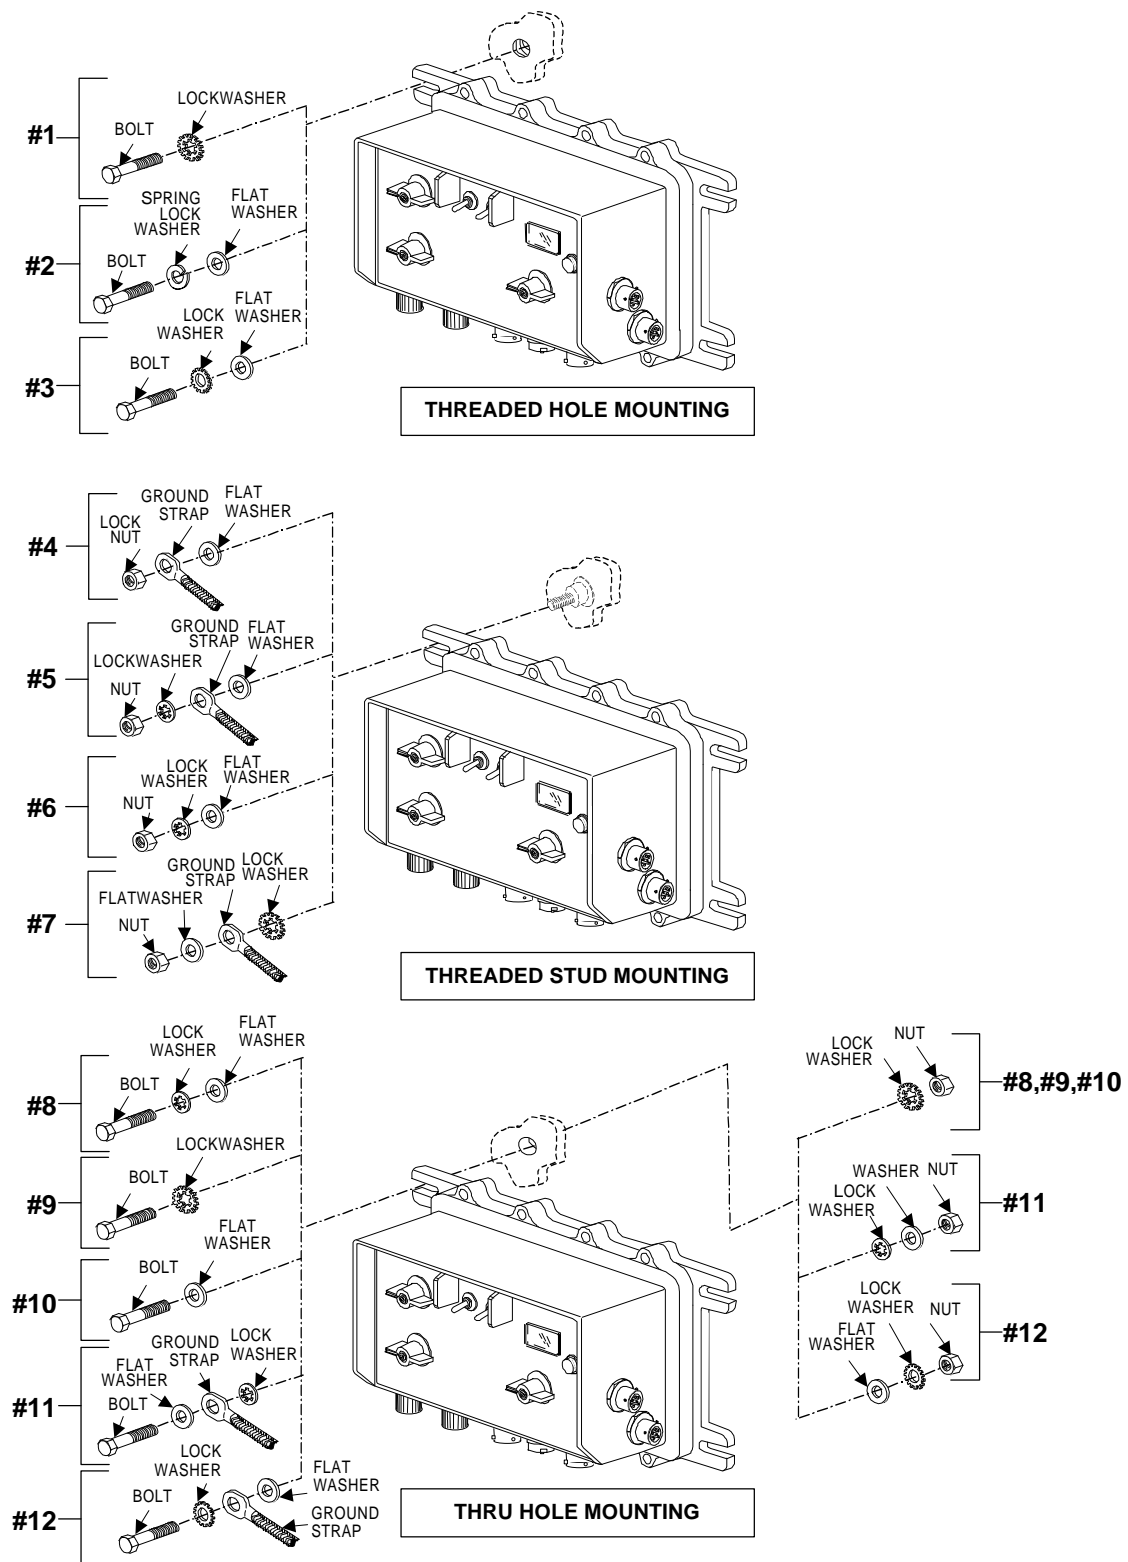

Figure 3-6. MCS Mounting Hardware Sequences
- Table 3-1 MCS Mounting Hardware (Fig. 3-6)
The Mounting Hardware Sequence Figures (Figure 3-6, 3-7, 3-8, 3-9), show the ground strap for sequencing purposes only. For the correct location of the ground strap (left, right, top or bottom of the LRU) refer to the appropriate vehicle TB (Table 1-1).
Table 3-1. MCS Mounting Hardware (Figure 3-6)